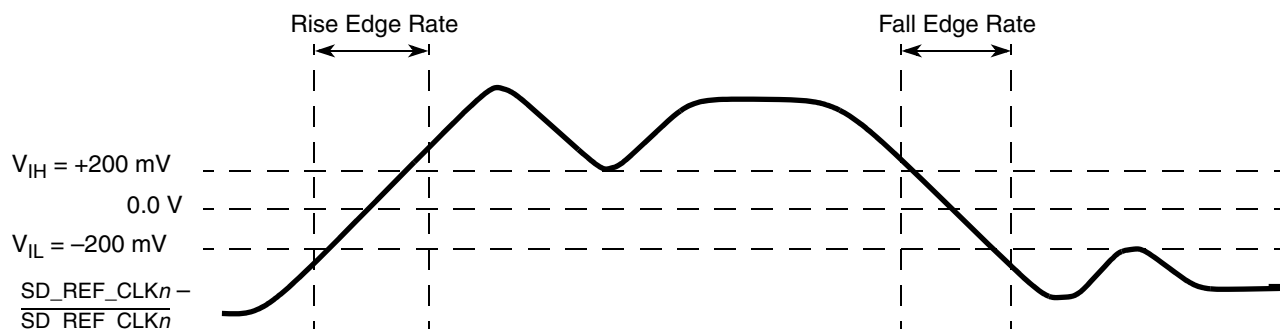

Figure 47. Differential Measurement Points for Rise and Fall Time
The differential waveform is constructed by subtracting the inverting signal ($\overline{SDn_TX}$, for example) from the non-inverting signal (SDn_TX , for example) within a differential pair. There is only one signal trace curve in a differential waveform. The voltage represented in the differential waveform is not referenced to ground. Refer to Figure 47 as an example for differential waveform.
3. Measured from -200 mV to +200 mV on the differential waveform (derived from SDn_REF_CLK minus $\overline{SDn_REF_CLK}$). The signal must be monotonic through the measurement region for rise and fall time. The 400 mV measurement window is centered on the differential zero crossing. See Figure 47.